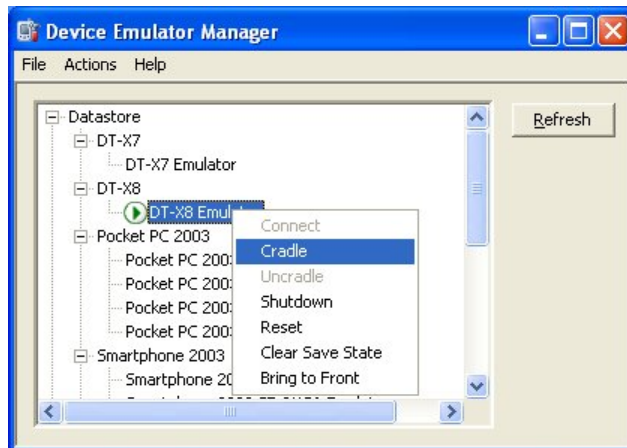

Figure 7.15
2. Start up Visual Studio 2008 or Visual Studio 2005, and then navigate to **Tools** → **Device Emulator Manager**. Right-click **DT-X8 Emulator** in **Available Emulators** list and then choose **Cradle** in the popup menu. See Figure 7.15.